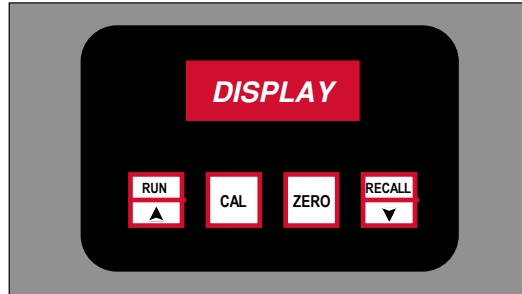

Figure 3: The Display and Control Panel
The front panel consists of a 4 digit LED display and four labeled, touch-sensitive push button controls as illustrated in Figure 3. The LED display remains illuminated while the analyzer is plugged in (switched on). When the instrument is on and not in use, the display may either show the result of the last analysis, or it may show *idLE*.
The **CAL** lockout switch must be in the on (I) position to set the timer (see figure 3, section 1.3.2). Press and hold the **RUN** button until the current timer value is displayed. The value is displayed as 1 or 2 digits in minutes and 2 digits in seconds, separated by a period (.). Release the **RUN** button once the current value (initially 0.00) is displayed. Use the up- arrow and down-arrow keys to scroll the timer back to 0.00. Once the desired time has been programmed press the **CAL** button. The display will read *idLE*.